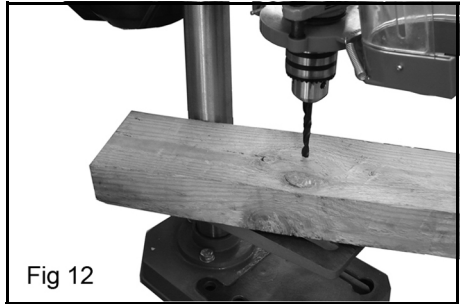

Fig 12
5. When drilling completely through wood, always position a piece of scrap wood between the workpiece and the table to prevent splintering on the underside of the workpiece as the drill breaks through. The scrap piece of wood must make contact with the left side of the column as shown in Fig 12 to prevent it moving.